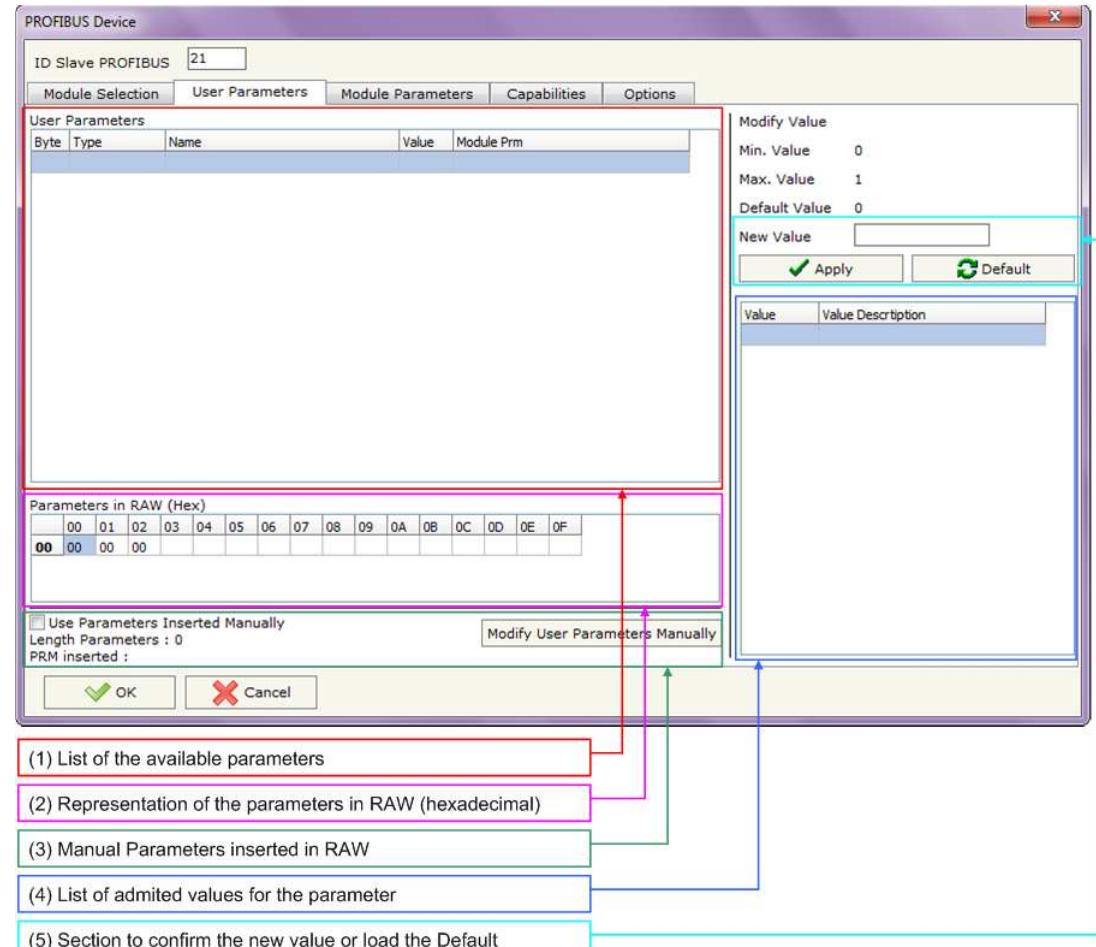
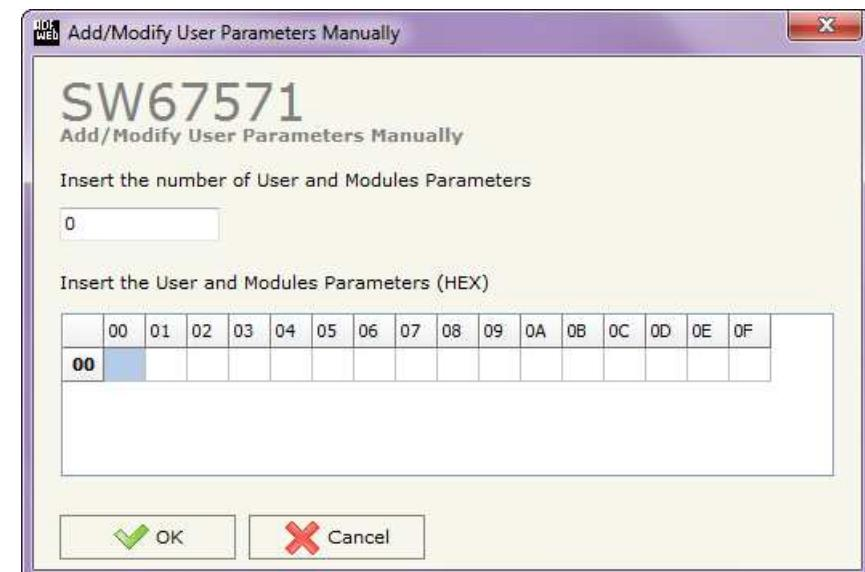

Figure 13: “PROFIBUS Device – User Parameters” window
Figure 14: “Add/Modify User Parameters Manually” window
The section “**User Parameters**” is used to modify the parameters of the PROFIBUS slave (Fig. 13).
- ❖ The List of all Parameters available for the PROFIBUS device (“User Parameters”) (Fig. 13, point (1));
- ❖ The Configuration of all parameters in RAW (“Parameters in RAW (Hex)”) (Fig. 13, point(2));
- ❖ The “**Use Parameter Inserted Manually**”, enable this option is possible to insert manually the parameters of Device and also of the Modules. Using the “**Modify User Parameters Manually**” button is possible to insert/modify the parametrization of the device (and/or modules). For more info see below. (Fig. 13, point(3));
- ❖ The admitted value for the selected parameter. It is possible to select the value desired and confirm it with the “**Apply**” button. If no value appears in this table, the “Min Value” and “Max Value” are the limit of the parameter. (Fig. 13, point(4));
- ❖ The “**Apply**” button is used to confirm the new value of the parameter, the “**Default**” button is used to load the factory value for the parameter. In “**New Value**” edit box it is possible to set the new value. (Fig. 13, point(5)).
By pressing the “**Modify User Parameters Manually**” button from the “PROFIBUS Device” window (Fig. 13) the “Add Module Manually” window appears (Fig. 14).